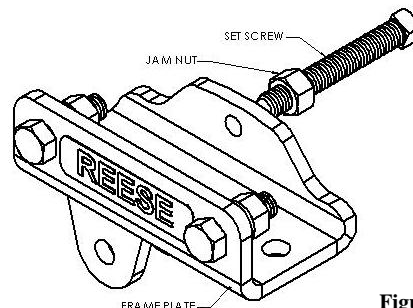

Figure 13
1. With the C-clamps still in place, center punch (2) holes in the frame for each bracket.
2. Drill (2) 17/32" holes in each side of the frame where the punched center marks were made. The use of a center drill or small pilot hole may be very helpful prior to final drilling.
3. Install the (2) supplied 1/2-13 x 1 1/2" Bolts, 1/2" Lock Washers & 1/2" Nuts (Items 5,6 & 7) figure 13.
4. Install 1/2-13 Hex Bolts onto the 1/2-13 X 3 1/2" Square Head Bolts and Install into the frame brackets as shown in figure 13.